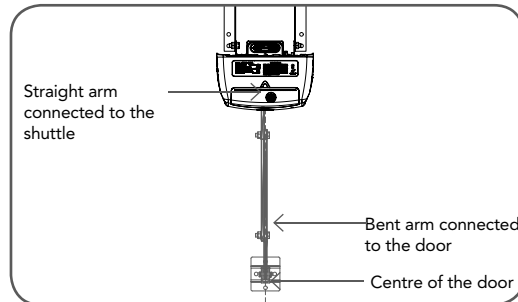

fig 25
- Assemble the bent arm (connecting to the door) to the right side of the straight arm (connecting to the shuttle) with bolts and nuts supplied in the accessory pack (**Fig. 25**). Always use both bent and straight arms.